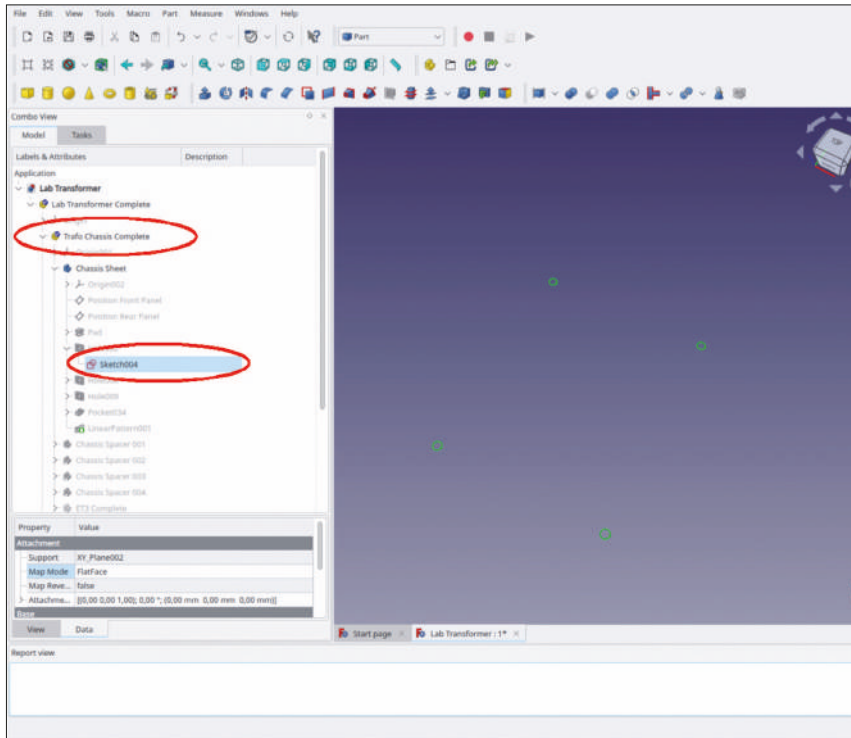

Figure 9-147
1. In the tree view, hide all Std-Part-Containers except 'Trafo Chassis Complete'. In 'Trafo Chassis Complete', hide all objects except 'Trafo Chassis Sheet', and in that body, also hide the tip. Locate and display only the sketch used to create the four mount holes (Figure 9-147).